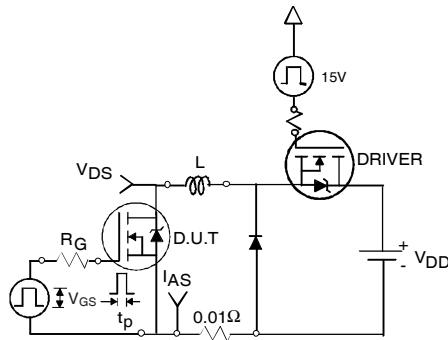

Fig 12a. Unclamped Inductive Test Circuit
- ④ Pulse width $\leq 400\mu\text{s}$; duty cycle $\leq 2\%$.
⑤ $C_{\text{oss eff.}}$ is a fixed capacitance that gives the same charging time as C_{oss} while V_{DS} is rising from 0 to 80% V_{DSS} .
⑥ Limited by $T_{J\text{max}}$, see Fig.12a, 12b, 15, 16 for typical repetitive avalanche performance.
⑦ This value determined from sample failure population. 100% tested to this value in production.
3. Equation below based on circuit and waveforms shown in Figures 12a, 12b.